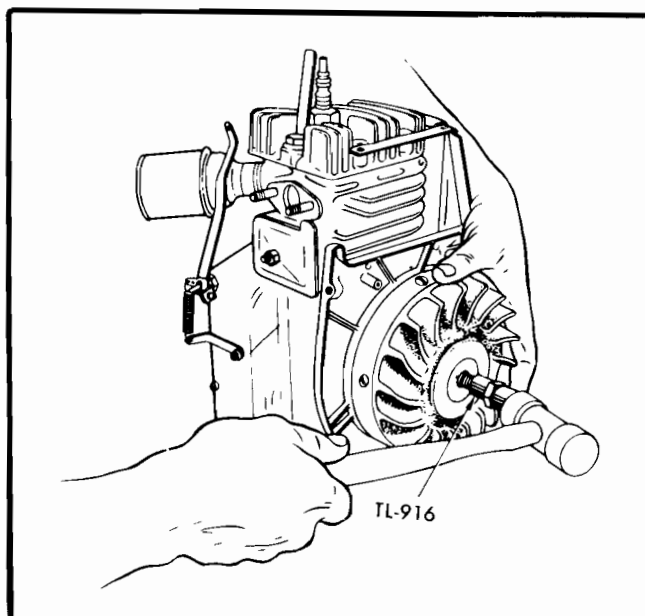

Figure No. 40—Removing the Flywheel
1. To protect the threads on the crankshaft from being damaged install TL-916, knockout Flywheel Puller, on the end of the crankshaft and strike it a sharp blow with a plastic hammer (See Figure No. 40). The flywheel should